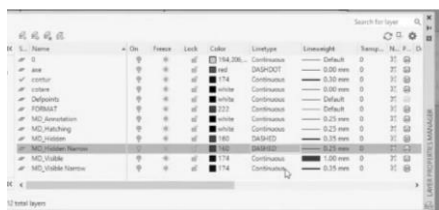

Figure 12 The layers after modification
- **Step 6:** Modifying the colors of the layers, the line types and line weight for the MD Visible layer, so it will look presentable to the eye (Figure 12).